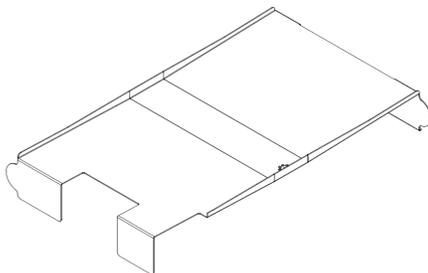

Figure 3-6
5. Make sure there is an empty drain pan (4" X 12" X 20") in the drain pan rack and the KleanShield™ drain is clear by pouring about a quart of water through the KleanShield™ drain (See Figure 3-6 and 3-7). Make sure that the water flows out the steamer drain into the drain pan.